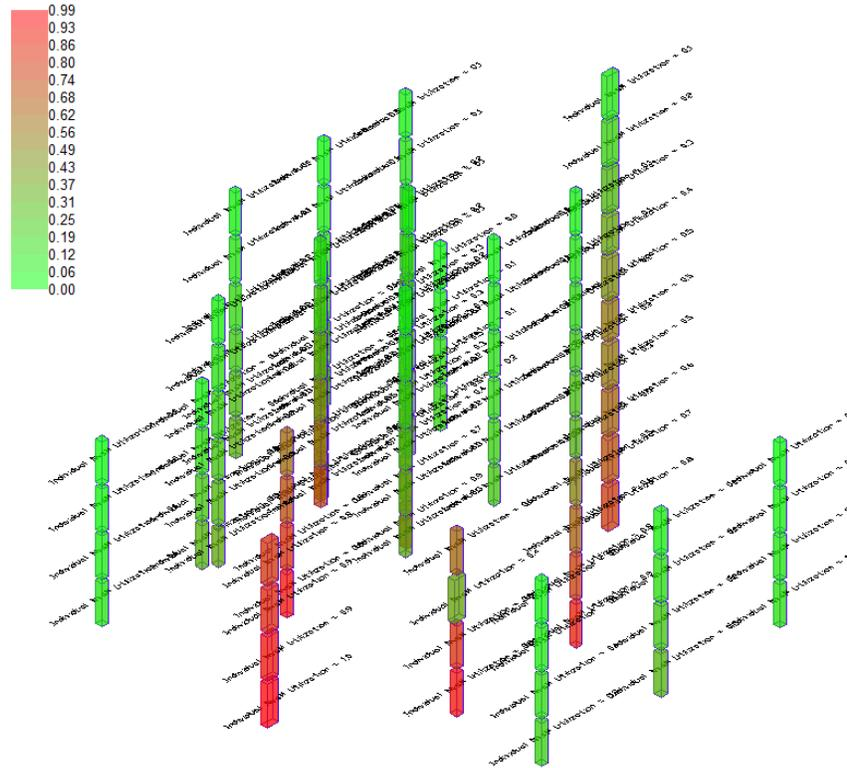

Figure 2-27 Individual Column Design N vs M Results - Value Display
- To change the display of results from Pass/Fail mode to display the value, select the *Result Display Settings* tab of *Result Display Settings* screen. Change Utilization to *Value* from *Status*, and click Apply. The column results will appear similar to **FIGURE 2-27**.